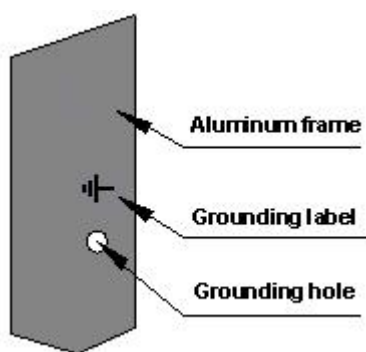
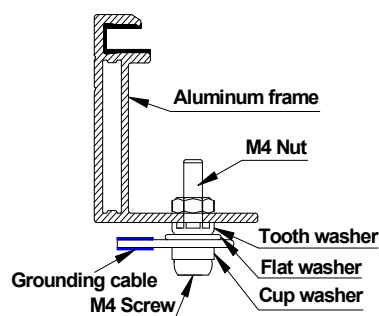

FIG 4 Grounding hole and ground label
FIG 5 Grounding method
**7.5.1** LN Solar modules use anti-corrosion and oxidation resistance aluminum frame as rigid supporting. In order to protect the module from lightning strike, electrostatic damage, and personnel safety, all module frames and mounting racks must be properly grounded, as shown in Figure 4: grounding hole and grounding label. Use the recommended connector terminal, or an equivalent, to connect the cable to the frame, and assure good electrical contact as shown in Figure 5: Grounding method.